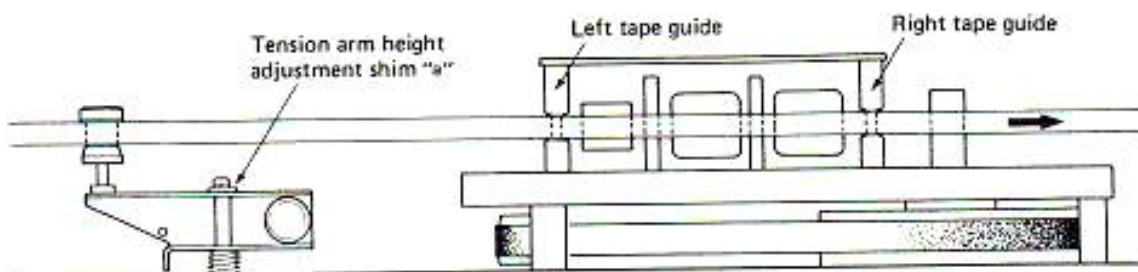

Fig. 2-9. Tape Path Adjustment
2. If curling at the left tape guide is evident, adjust the height of the guide by inserting a shim of appropriate thickness ( $\phi 5 \times \phi 8 \times 0.5t$  or  $0.25t$ ) into "a" of the left tension arm. The same procedures should be followed for the right tension arm height adjustment. See Fig. 2-9.